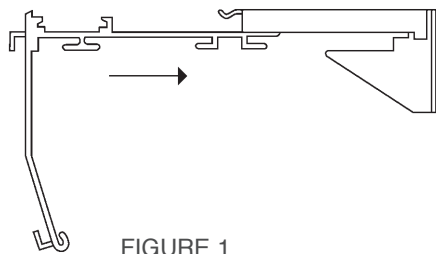
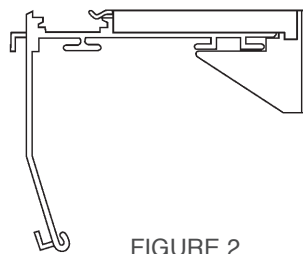

FIGURE 1
FIGURE 2
1. Push the rail back until it is fully engaged (Fig. 1 and Fig. 2).